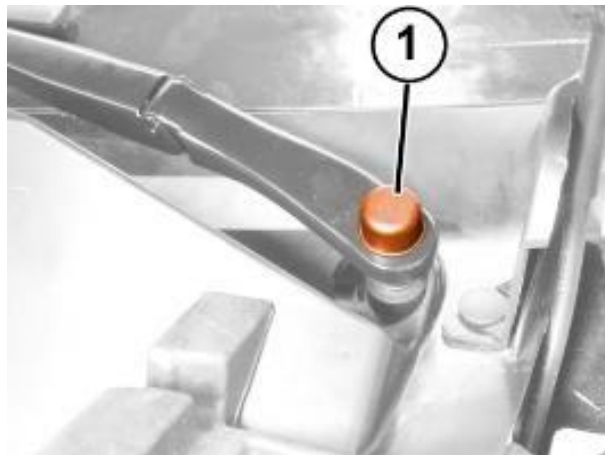

Figure 8 – Wiper Arm Nut Cover
17. Release the nut cover (1) at the base of the windshield wiper arm (Figure 8).